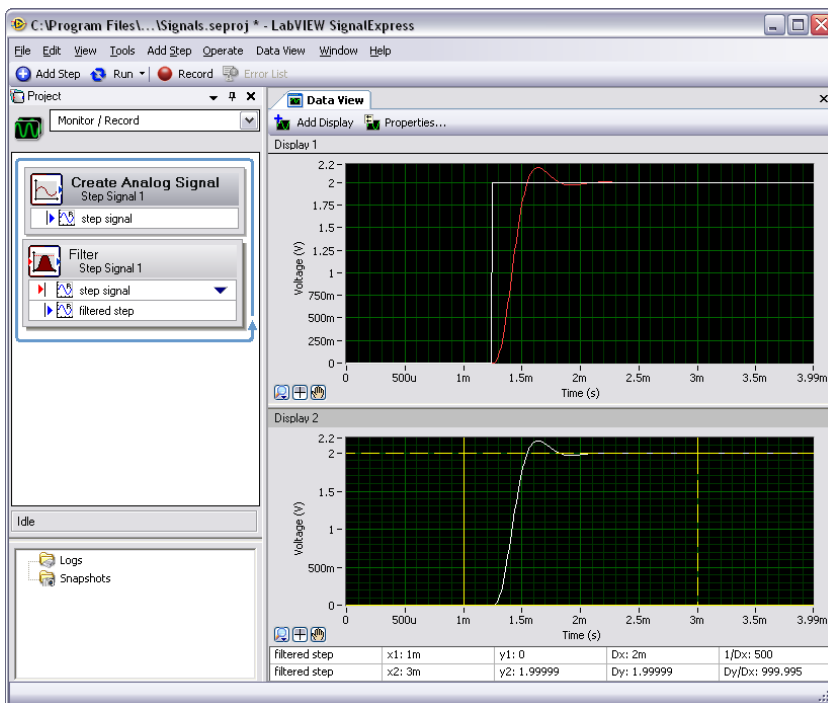

Figure 3-1. Signals.seproj
6. Right-click the new display and select **Visible Items»Cursors** from the shortcut menu to display two interactive cursors, as shown in Figure 3-1.